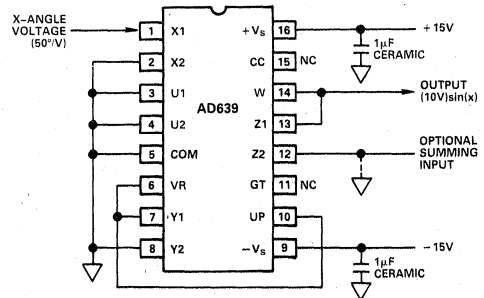

Figure 2. Connections for the Sine Mode with Amplitude Preset to 10V
The AD639 can generate either (1) a low-distortion continuous sinewave from a repetitive triwave input or (2) a high-accuracy sine function for use in computational applications. In most cases, the choice of preset or externally-controlled amplitude will make little difference to distortion or accuracy, and both methods are used in this section. In all of the *normal* modes, the Z2 input can be used either to sum a further signal to the output (or introduce an optional output offset trim). The denominator is set to unity by making  $\gamma = 90^\circ$ , using the +1.8V output. Figure 2 shows typical connections. The 10V preset is selected, using  $V_r$  as a control input to UP, and the ideal output is  $(10V)\sin(x)$ . In practice, five basic types of error arise:
1. **X-angle scaling error:** The amount by which the angle generated for each volt of X-input differs from  $50^\circ$ . In triwave-to-sinewave (CW) applications this introduces odd-order harmonic distortion, and is indistinguishable from an incorrect triwave amplitude.